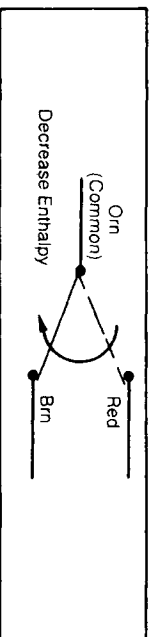

Figure 1. THC-2, THCR-4 Switch Action and Lead Identification
- Drill (2) 1/8" (3 mm) holes for the mounting screws and a 1/4" (6 mm) hole for the setpoint using the scale plate as a drilling template.
- Mount the control to the duct by inserting the setpoint shaft through the scale plate (from within the duct). Secure the control with the (2) self-tapping screws provided.
- 1/4" spade connections are numbered 1, 2 and 3. See Figure 1 for SPDT switching action.